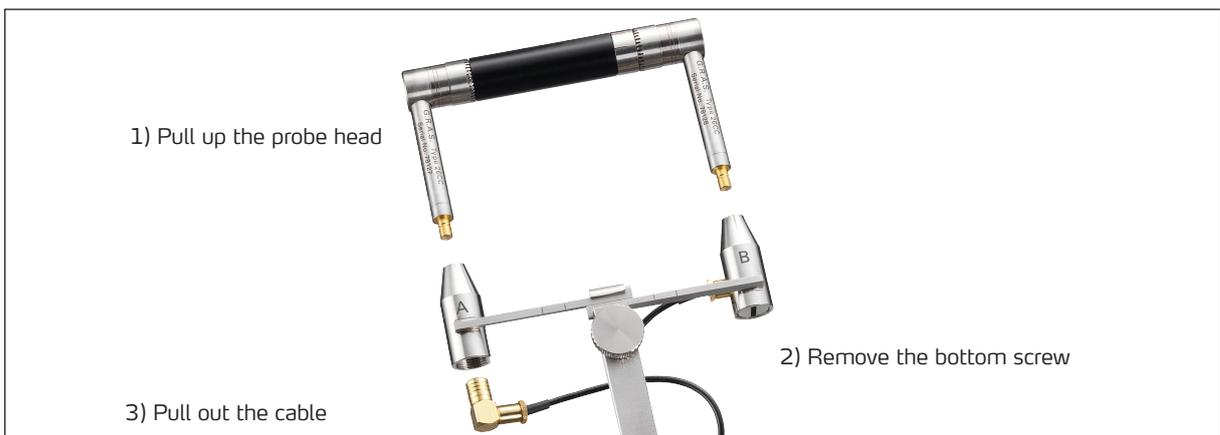

Fig. 7. Releasing the cable connectors from the holder assembly.
3. Slide out the cable as shown in Fig. 7.